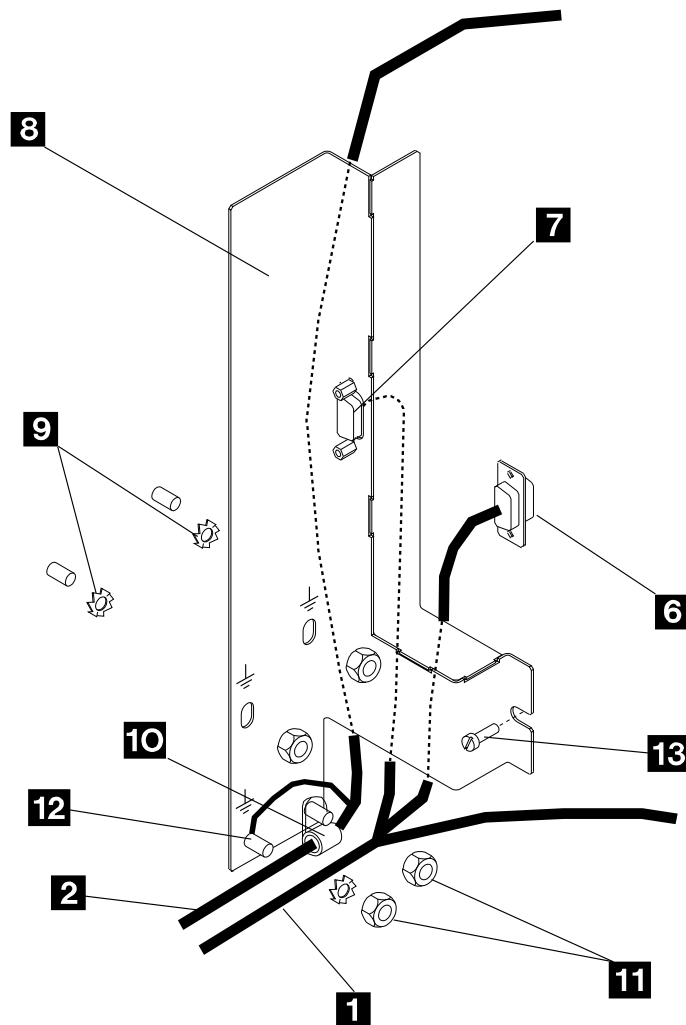

Figure 6-3. Power Control Cable Cover Installation
- Step e. ____ Plug connector **6** to J2 located on the 3745 frame (see Figure 6-3).